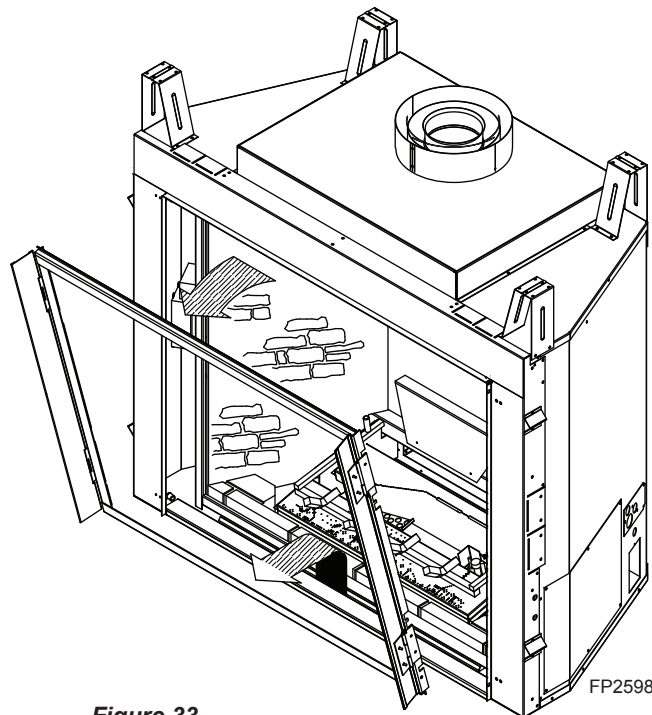

*Figure 33 -
4. Remove glass frame by releasing the three latches located at the top of the firebox. Tilt glass away from the unit, lift glass frame up and away from the unit. *Figure 33*